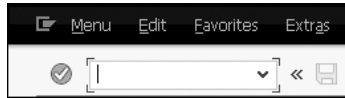

Figure 5.14 Navigating to the Close Menu Item
- 1 Click the  button at the top left, and select the Close menu item or press **[Alt]+[F4]**, as shown in Figure 5.14.